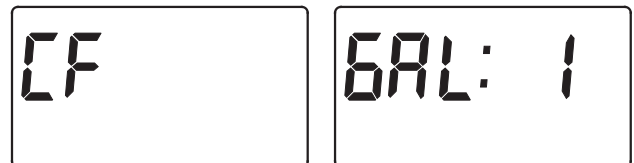

FIG. 29
4. **CHEMICAL FEEDER TRIP VOLUME:** If you have set the auxiliary output control to CF (Chemical Feeder), you will need to set the volume of water which must flow past the turbine\* before the auxiliary output is turned on. With the alternating screens in Fig. 29 shown, use the  $\triangle$  UP or  $\nabla$  DOWN buttons to set the trip volume, in gallons. Then press the SELECT button to display the screen shown in Fig. 30.